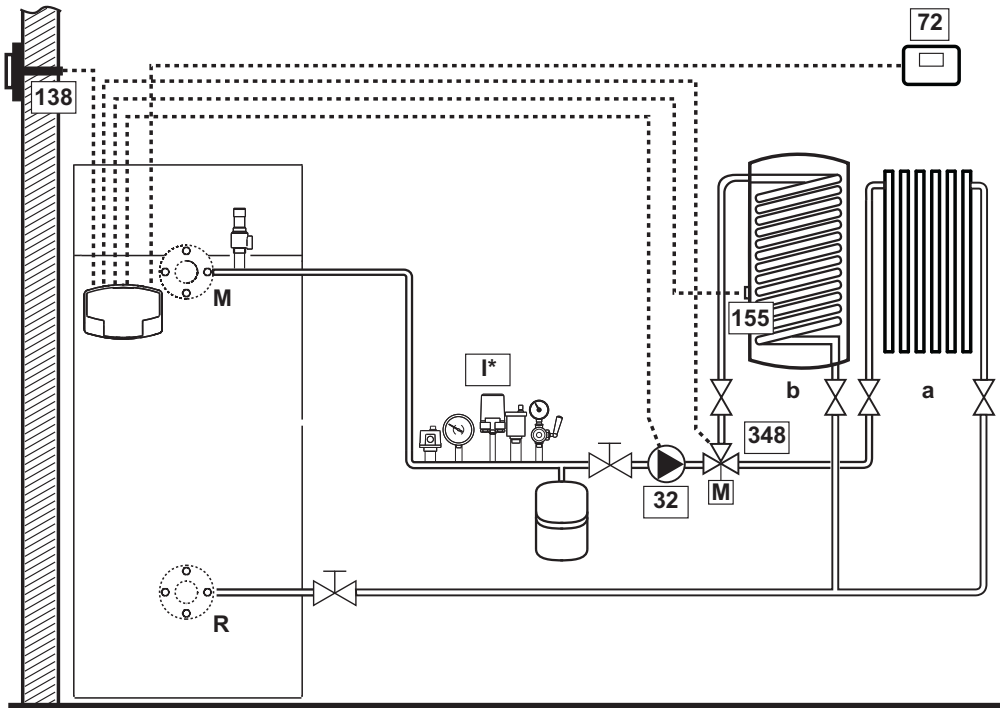
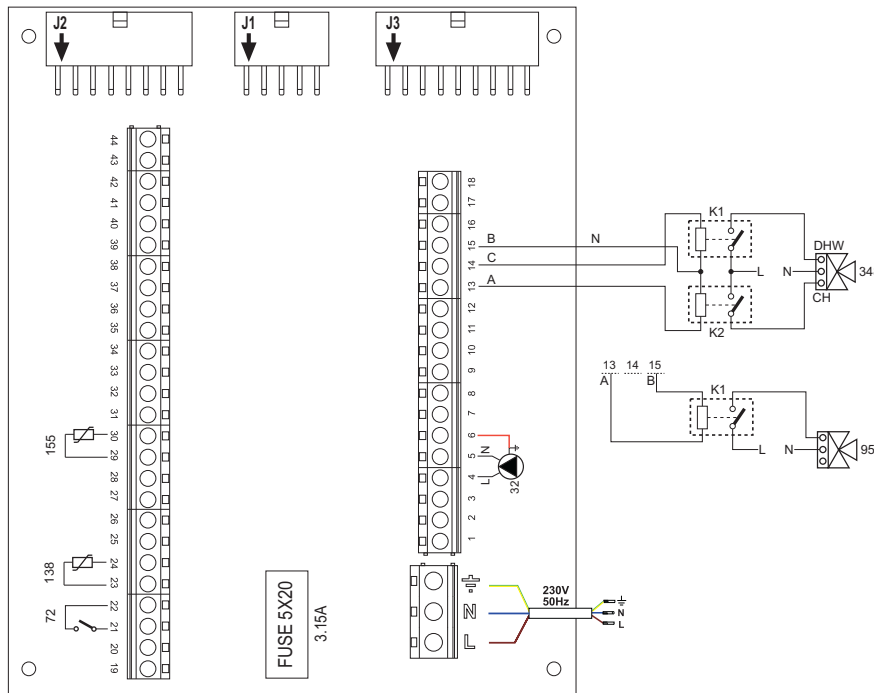

fig. 43
fig. 44
**To avoid damaging the board, it is advisable to use external relays to control the 3-way valve, as indicated in fig. 44.**
#### Legend (fig. 43 and fig. 44)